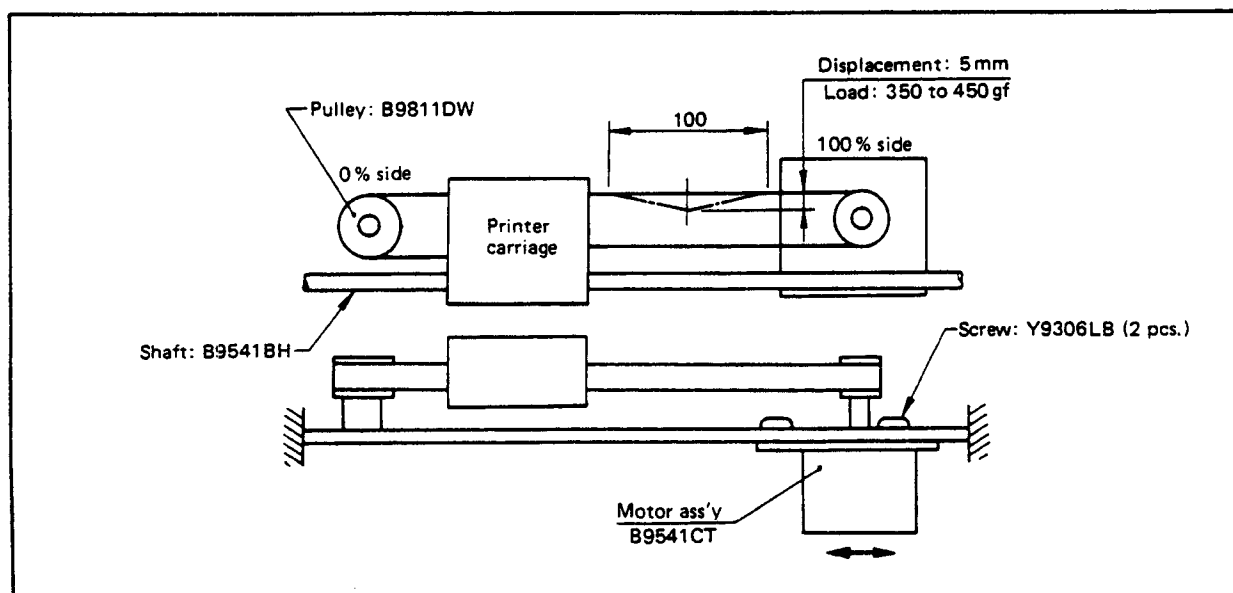

Figure 11-12.
- 2) As shown in Figure 11-12, the belt tension is at the recommended value if a displacement of 5 mm occurs in a span of 100 mm when a load of 350 to 450 gf is applied.